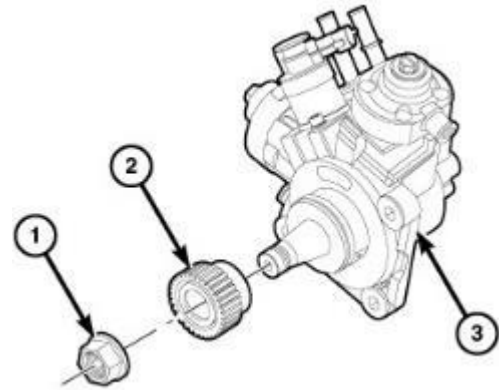

Figure 38 – Drive Gear on the HPFP
NOTE: The use of Puller 1023 or a commercially available gear puller is required to remove the fuel injection pump gear (2) (Figure 38).
32. Install a **NEW** O-ring seal (1) to the **NEW** fuel injection pump.
33. Install the gear (2) and nut (1) onto the fuel injection pump (3) and tighten the nut (1) finger tight (Figure 38).